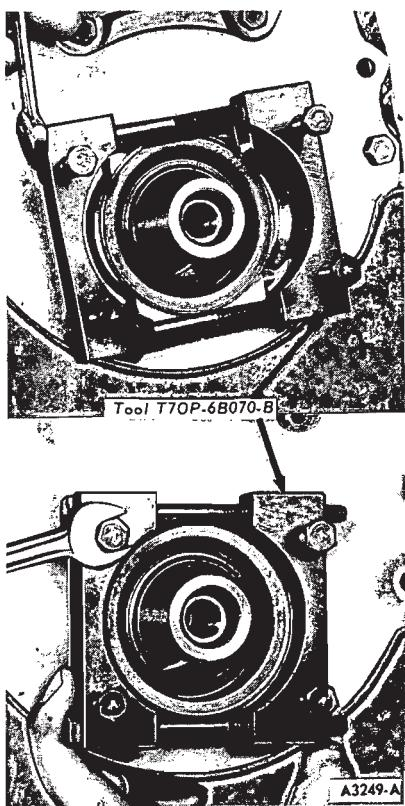

FIG. 21—Removing Front Crankshaft Seal
5. Place the front seal removing tool onto the front cover over the front seal as shown in Fig. 21. Tighten the two through bolts to force the
6. Alternately tighten the four puller bolts a half turn at a time as shown in Fig. 21 to pull the front oil seal from the front cover.
4. Remove the front crankshaft seal from the cylinder front cover with the tool shown in Fig. 21. Clean the cylinder front cover and the engine block gasket surfaces.